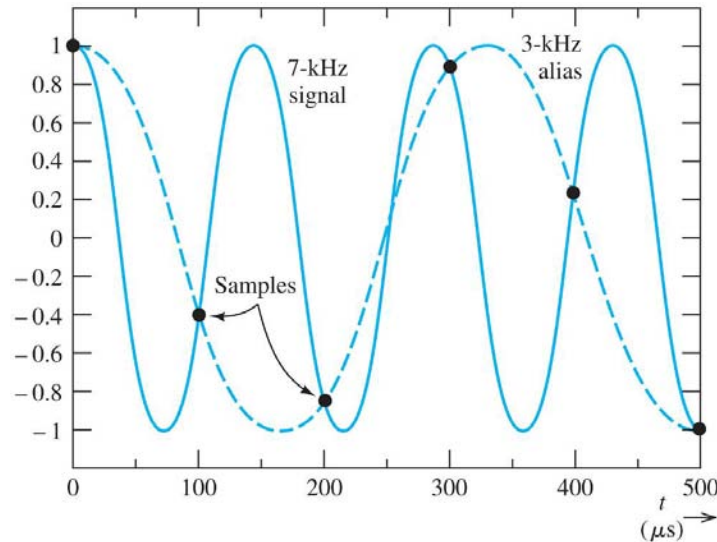

Figure 4. An example of aliasing caused by sampling at too low a rate.
10. Compare this reconstructed signal to the original analog signal in Figure 4 of the ADC note set. Make observations about the following things.
Aliasing occurs when the sample rate is too low. Figure 4 shows an example of aliasing for an audio signal.
20. What is the sample rate in Figure 4?
21. Did the ADC-to-DAC process in Figure 4 lose information or introduce information that wasn't there?